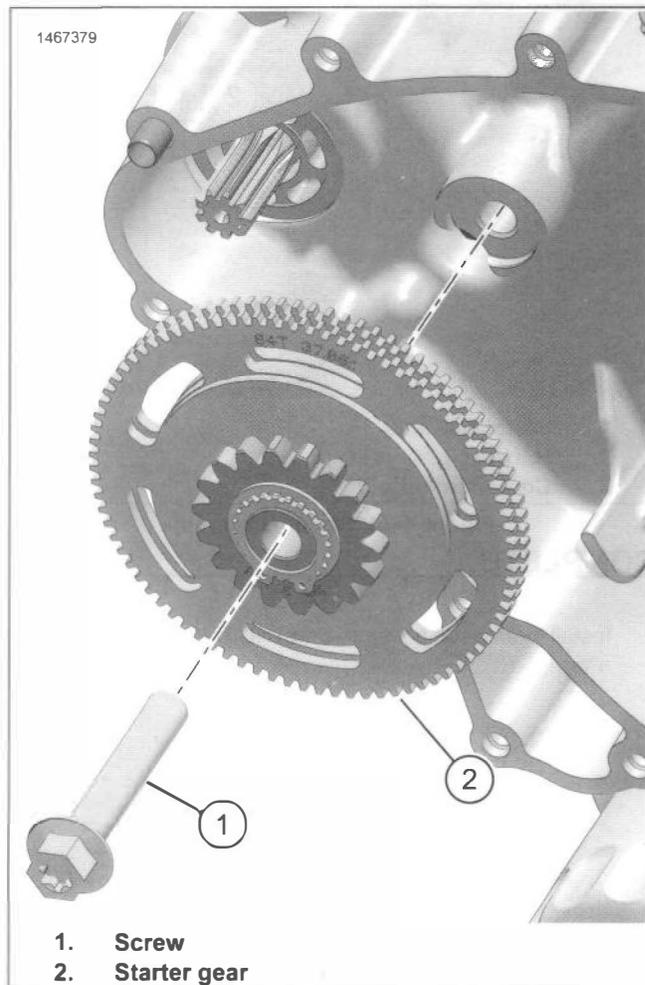

Figure 4-75. Starter Gear
1. See Figure 4-75. Remove screw (1).
2. Remove starter gear (2).
1. See Figure 4-75. Install starter gear (2).
2. Install screw (1). Tighten.